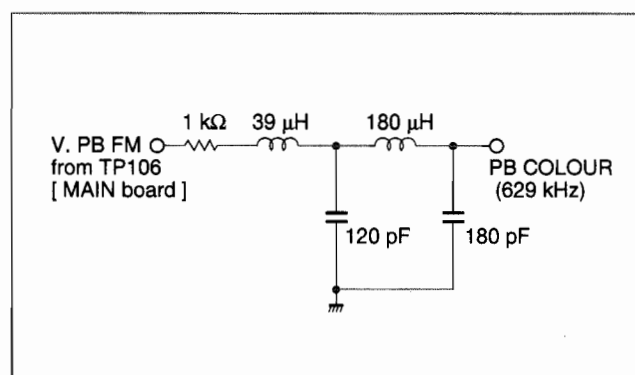
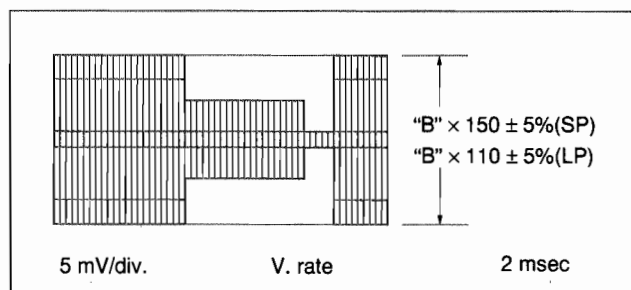

Fig. 3-3-4 LPF
Fig. 3-3-5 REC colour level
- (1) Connect an oscilloscope to PB COLOUR of a LPF (refer to Fig. 3-3-4) and TP111 (negative slope) on the MAIN board.
- (2) Playback the SP colour bar signal of the MH-2H alignment tape.
- (3) Adjust by pressing the CH "+" or "-" buttons of the Front panel for maximum level of the color waveform and make a note of the higher colour level "B".
- (4) Press the STOP/EJECT button and eject the MH-2H alignment tape.
- (5) Set the EVR mode by pressing the "K" button of the pre-setting unit.
- (6) Set "A : 2" by pressing 2 button of the remote controller.
- (7) Before recording, adjust the CH "+" or "-" buttons of the remote controller so that the higher level channel becomes  $150 \pm 5\%$  : SP ( $110 \pm 5\%$  : LP) of the note "B" level during playback as shown in Fig. 3-3-5.
- (8) Record a colour bar signal in the SP (LP) mode, and playback the recorded colour bar signal.
- (9) Set the normal VCR mode by pressing the "K" button again so adjustment data is memorized.